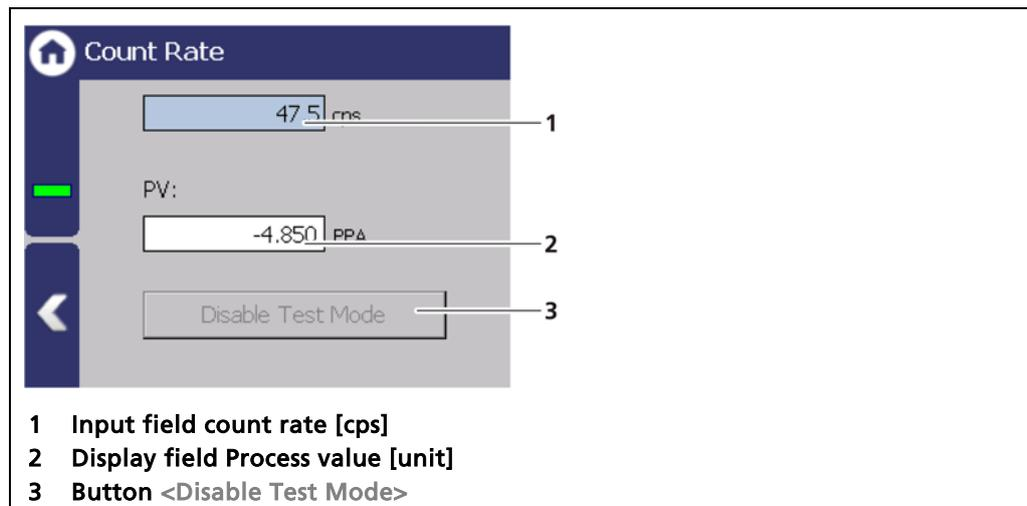

Fig. 107 Simulation count rate
1. Click on the input field (Fig. 107, item 1) and enter count rate for the simulation.
- ▶ The test is performed, and a system event is displayed. The PV value is displayed in the display field (Fig. 107, item 2).
2. Click on the <Disable Test Mode> button (Fig. 107, item 3) to stop the simulation.